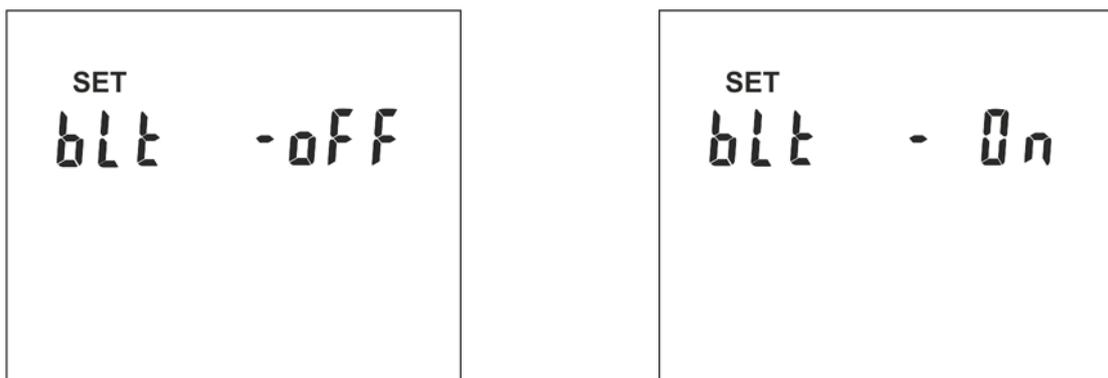

Fig. 4: Setting display backlight
3. Press the arrow keys **←** or **→** to go to the display's backlight setting. The screen in Fig. 4 – left side appears on the display.